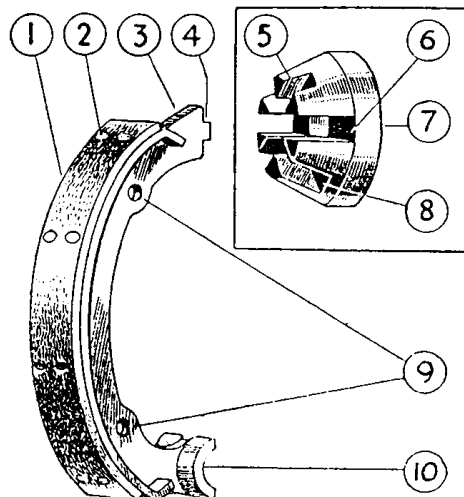

FIG. 65. SHOWING 1945-7 BRAKE SHOE WITH THRUST-COLLAR ADJUSTMENT
Brake Shoe Adjustment (1945-7 Models). To rectify loss of braking efficiency which cannot be rectified by the hand-type adjuster it is necessary to effect a major adjustment of the thrust collar fitted to the tongue of each brake shoe. The adjustment is the same for the front and rear brakes, and details of the adjustable thrust-collar are shown in Fig. 65. As may be seen, each thrust collar (7) has machined slots (5), (6), (8), of different depth.
Referring to Fig. 65, to effect a major brake-adjustment it is necessary to remove each thrust collar from the tongue of its shoe and turn the collar so that the slot next less in depth engages the brake shoe (3) on replacing the shoe. Where the brake linings are badly worn, the two shallow slots (5) are suitable. If no wear of the brake lining-S has occurred, use the two deep slots (6). If only moderate wear of the linings is present, it is advisable to make use of the two medium-depth slots (8). It should be noted that the tongue (4) enters the centre of the thrust collar (7).
KEY TO FIG. 65